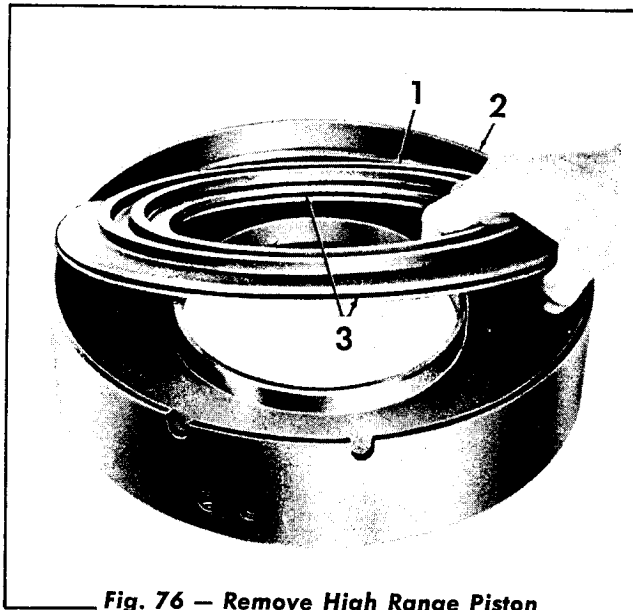

Fig. 76 — Remove High Range Piston and Housing
14. Remove the high range piston (Fig. 76) from the piston housing. Remove the piston seals from the piston.